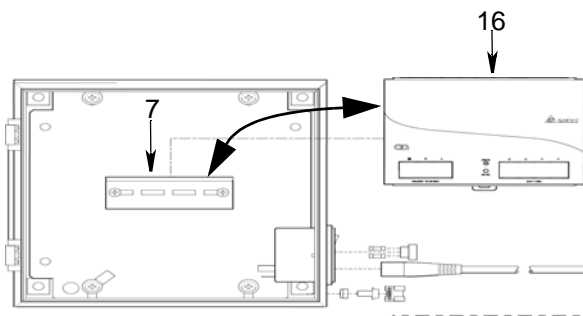

FIG. 12
1. To secure power supply to DIN rail, hook clips on power supply (16) into DIN rail (7) (FIG. 12). Push down firmly on lower edge of power supply until you hear a click.
2. Gently pull up on the bottom edge of the power supply (16) to verify it is securely in place.